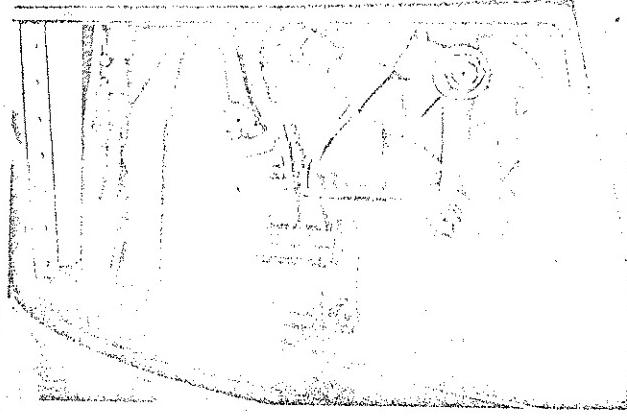

Figure 5—Steering Housing Accessibility
- Steering gear housing is accessible through tool compartment, as shown in figure 5. Working through tool compartment door, disconnect steering drag link from Pitman arm, as directed under "Steering Drag Link," later in this section.
- Disconnect universal joint, at steering gear housing, by removing U-bolts which attach U-joint journal to tapered yoke (28). Remove steering gear propeller shaft.